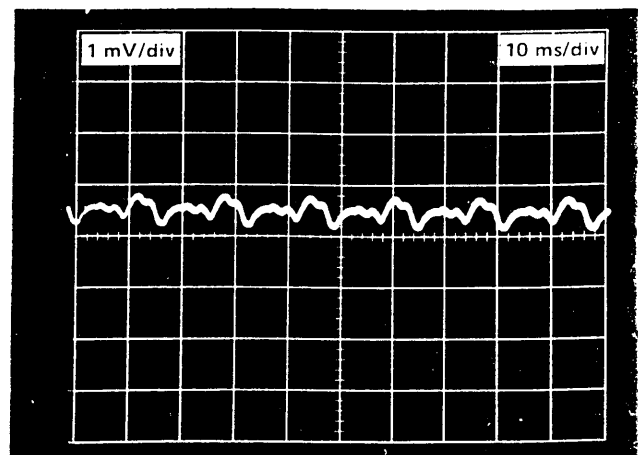

Fig. 5-2. Typical display of ripple.
- e. Vary the line voltage from 90 V to 136 V (use the correct position of the HI/LO line switch) and check that the output voltage ripple of each supply is  $\leq 1$  mV. See Fig. 5-2.